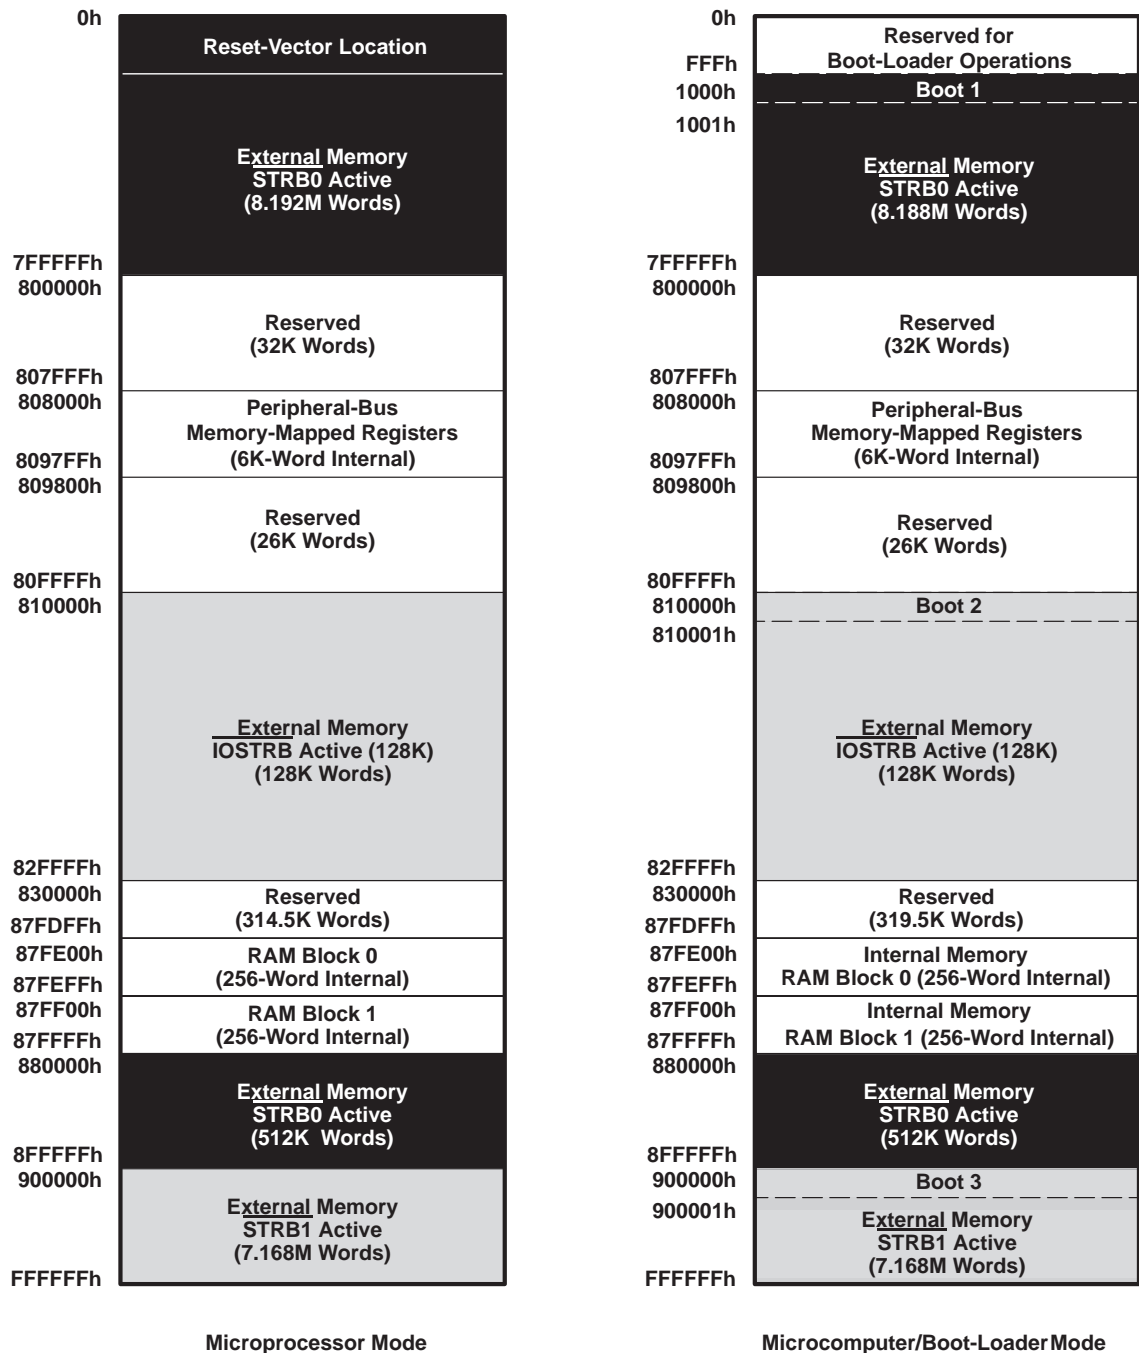

Figure 8. SMQ320C32 Memory Map
- STRB0 and STRB1 are sets of control signals, four signals each, that are mapped to specific ranges of external memory addresses. When an address within one of these ranges is accessed by a read or write instruction (CPU or DMA), the corresponding set of control signals is activated. Figure 8 illustrates the SMQ320C32 memory map, showing the address ranges for which the strobe signals become active.
- The $\overline{\text{IOSTRB}}$ control signal, like $\overline{\text{STRB0}}$ and $\overline{\text{STRB1}}$, is also mapped to a specific range of addresses but it is a single signal that can access only 32-bit data from 32-bit-wide memory. Its range of addresses appears in Figure 8, the SMQ320C32's memory map. The $\overline{\text{IOSTRB}}$ bus timing is different from the $\overline{\text{STRB0}}$ and $\overline{\text{STRB1}}$ bus timings to accommodate slower I/O peripherals.
Figure 8 depicts the memory map for the SMQ320C32. See the *TMS320C32 Addendum to the TMS320C3x User's Guide* (literature number SPRU132B) for a detailed description of this memory mapping.
To reduce external logic and simplify the interface, the external interrupts can be either edge- or level-triggered. Unlike the fixed interrupt-trap vector-table location of the '320C30 and '320C31 devices, the SMQ320C32 has a user-relocatable interrupt-trap vector table. The interrupt-trap vector table must start on a 256-word boundary. The interrupt and trap vector locations memory mapping is illustrated in Figure 10. The reset vector is fixed to address 0h as shown in Figure 8.